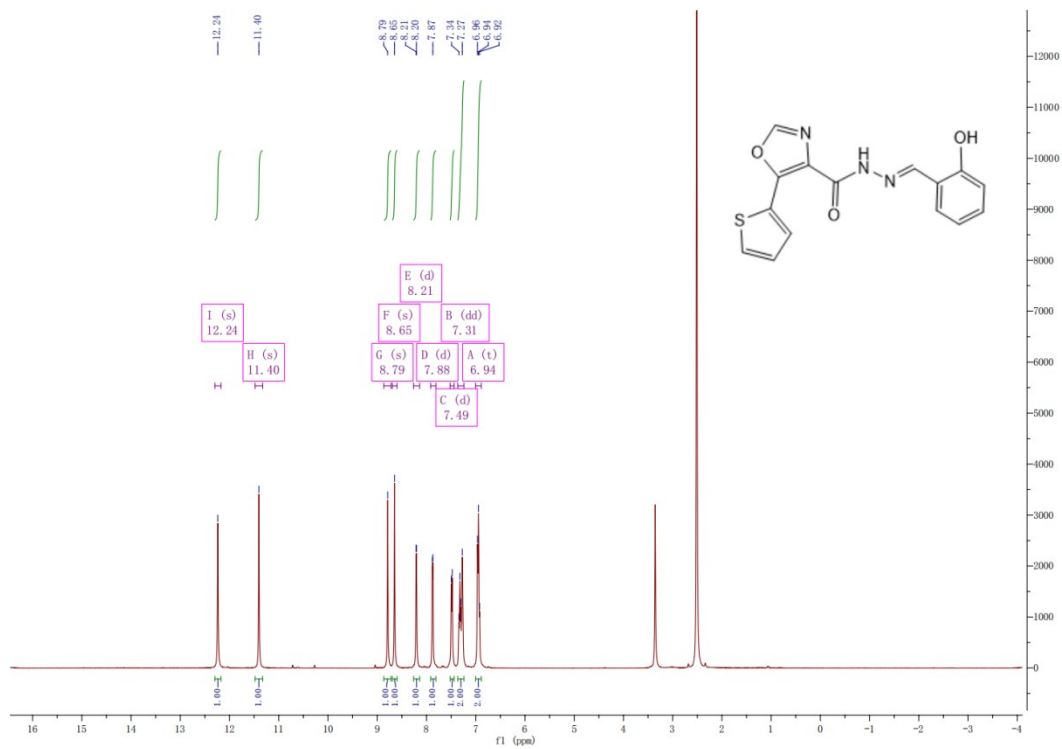

Fig. S1. ^1H NMR in $\text{DMSO-}d_6$ spectrum of L1.
1. **Figure S1.** ^1H NMR in DMSO- d_6 spectrum of **L1**.